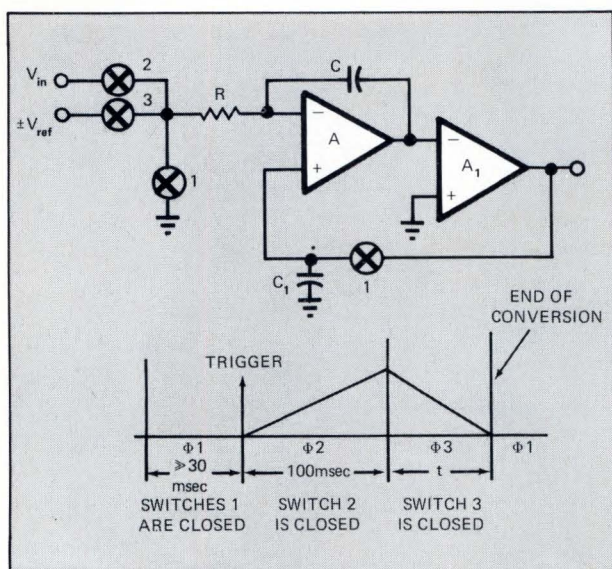

Fig. 4—Self zeroing in Triphasic technique eliminates long-term drift components.
This is similar to the dual-slope technique, but as its name implies, a third phase of operation is incorporated in each conversion cycle, which effectively eliminates the drift impact on accuracy. The TRIPHASIC (TM) circuit is illustrated in Fig. 4. The master clock, digital timing and control logic, and counter circuitry are not shown.